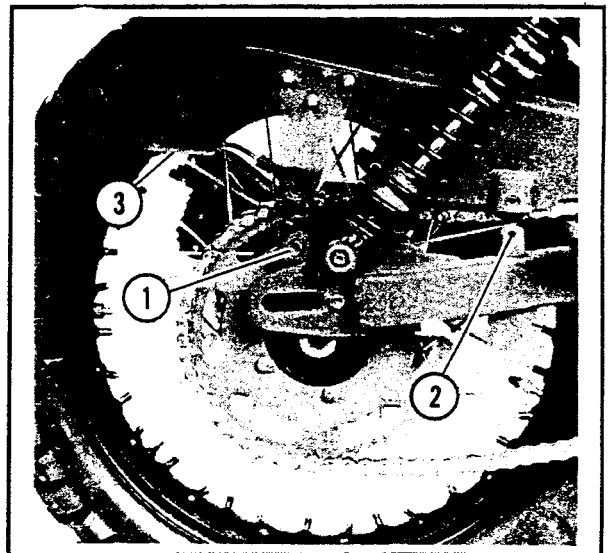

Figure 5-57. Chain Guard
5. See Figure 5-57. Remove screw (1) and flat washer, screw (2) and flat washer, and swing chain guard (3) up and away from sprocket.
4. See Figure 5-57. Swing chain guard (3) back into position and install small screw (2) and flat washer, and large screw (1) and flat washer.